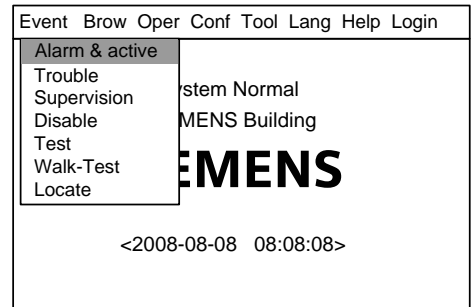

Fig.12-1
1. Press “Menu” to browse the main menu (Fig.12-1).